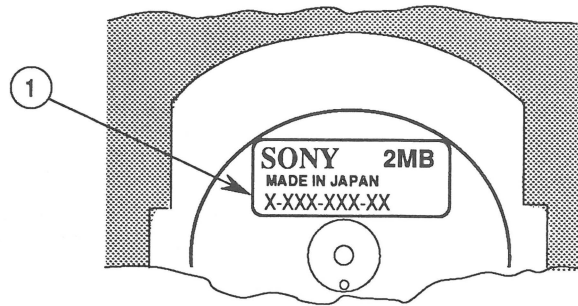

FIGURE 3
2. Check the manufacturer's label (Figure 3, #1) on the bottom of the drive mechanism; **2MB** has been added to the label on all high-density drives.